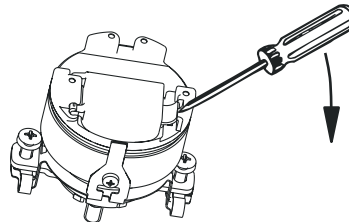

Figure 2: Disassembly SKS/SKM36
- ▶ If necessary please open the cover (12) with a screwdriver **see figure 2**.
- ▶ Remove the 2 M3 screws (8).
- ▶ The fixing plate (3) is to be positioned in such a way that the screw holes are aligned with the stator coupling (4).
- ▶ Place the assembly tool (5) on the back of the motor feedback system and engage in the recesses of the motor feedback system housing (6).
- ▶ Using the hexagonal part (7) of the assembly tool (5), detach and remove the motor feedback system from drive shaft.
- ▶ Engage the connector (9) fitted with the set of strands(10), volt-free, in the connector socket (11) of the motor feedback system.
- ▶ Close the cover (12) (engage in the recess of the motor feedback system housing). The engagement by clicking must be clearly felt or heard.